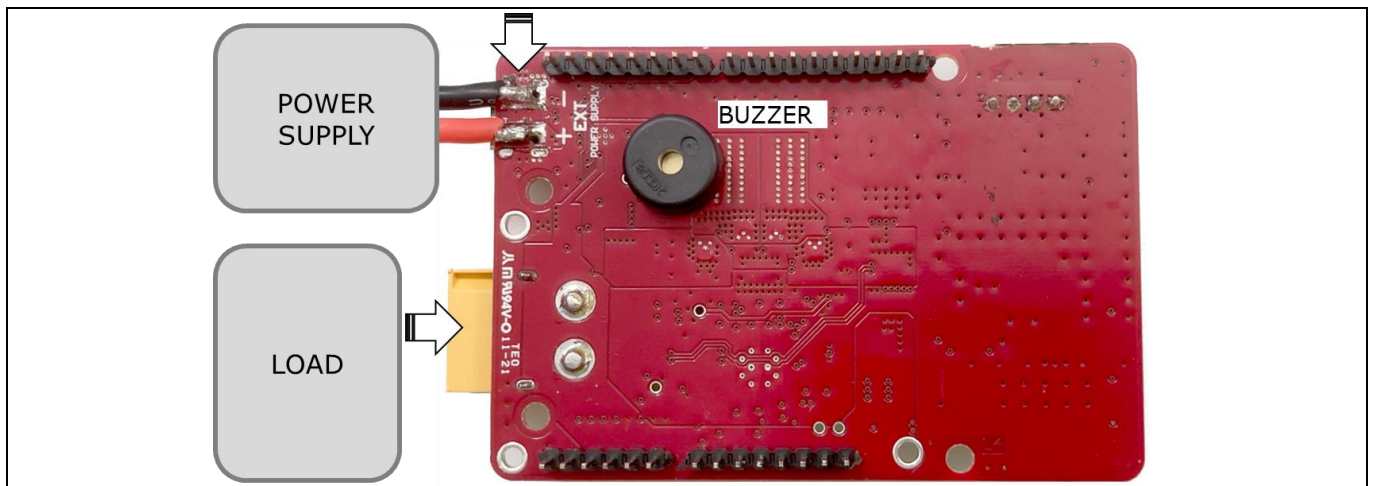

Figure 7 Solder power supply wires at the shield EXT pads
Place the buzzer on the bottom-side of the PCB, see Figure 7.
4. Solder 2 wires at the bottom of the PCB at the EXT power supply pads: see Figure 7
3. Solder 2 wires at the bottom of the PCB at the EXT power supply pads: Figure 7